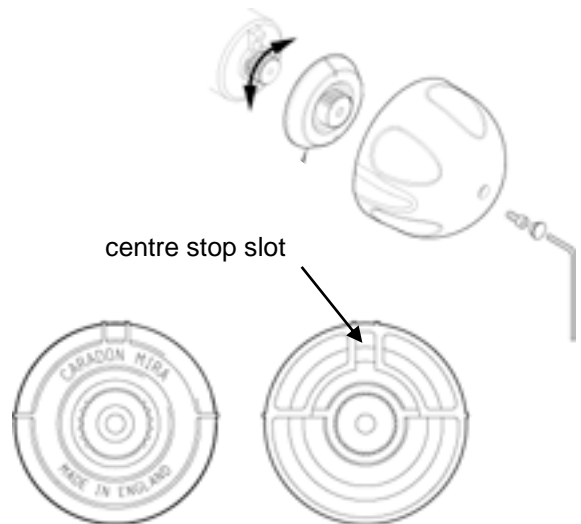

Fig 2
7. Once the desired maximum blend temperature is achieved, re-fit the hub without disturbing the spindle, positioning it so that the centre stop slot in the hub fits over the top of the cartridge stop (refer to **Figure 2**), preventing any further rotation in either direction. Check that the blend temperature has not altered.